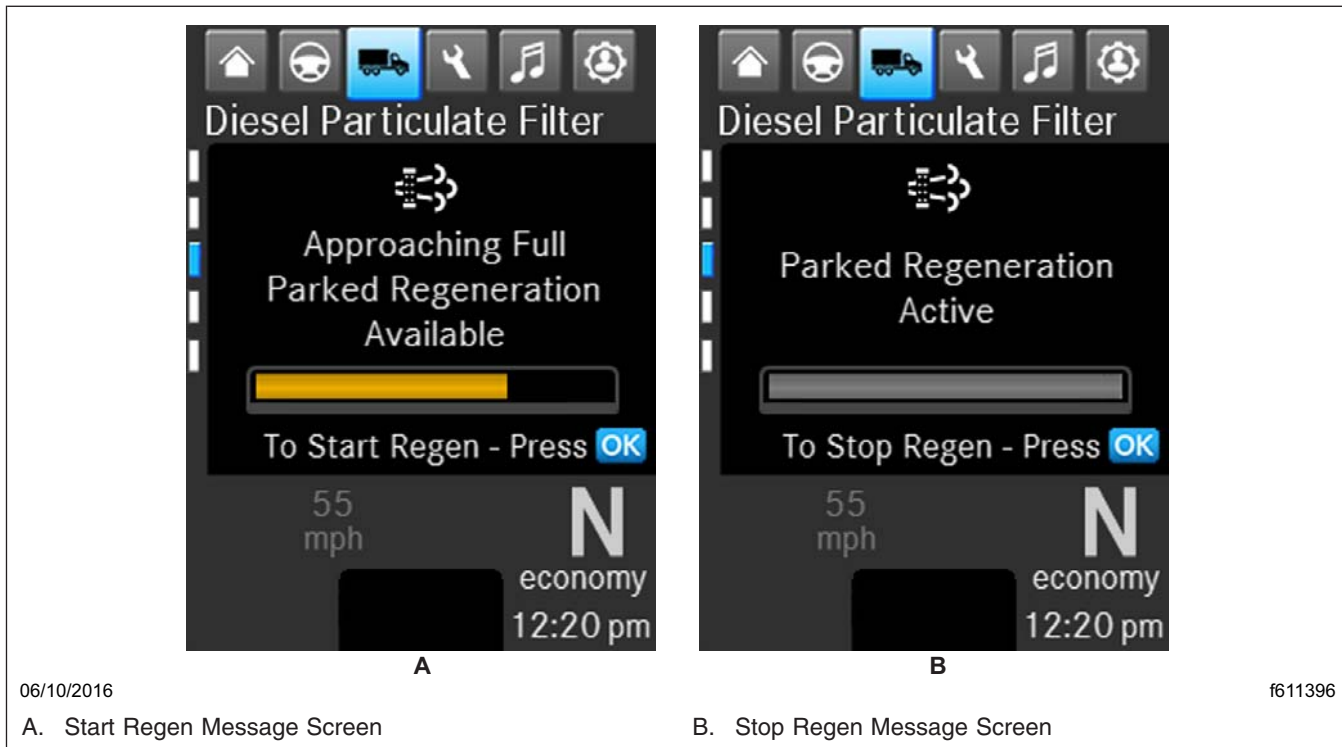

Fig. 13.2, Parked Regen Message Screens
When operating conditions do not allow for ATD filter cleaning by active or passive regen, the vehicle may require a driver-activated **parked regen**. When this occurs, the driver display screen presents a message indicating that a regen is required. See Fig. 13.2. The driver must either bring the vehicle up to highway speed to increase the load (thus starting an active regen), or park the vehicle and initiate a parked regen. See *Regen Operations*, below, for instructions on initiating a parked regen.
Parked regen is initiated by selecting OK when the driver display screen shows 'Parked Regen Required.' See Fig. 13.2. If the vehicle is equipped with the optional digital STOP REGEN switch, parked regen can be stopped by pressing OK on the screen while the regen is in progress. See Fig. 13.2.
3. Select OK when the DPF screen is displayed on the driver display screen. See Fig. 13.2. Select OK again to confirm regen. As the regen process is initiated, engine rpm increases and the HEST lamp illuminates to indicate extremely high exhaust temperatures.